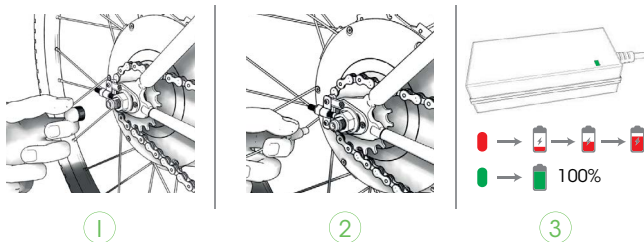

Figure 4: charging BIKE all in one
2.3 Charging BIKE all in one (see Figure 4)